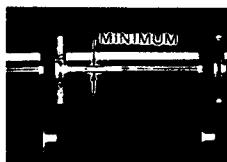

Fig. 3-1
- 2 Then simultaneously adjust R20 and R85 to minimize the carrier leak of black level as shown in Fig. 3-1.